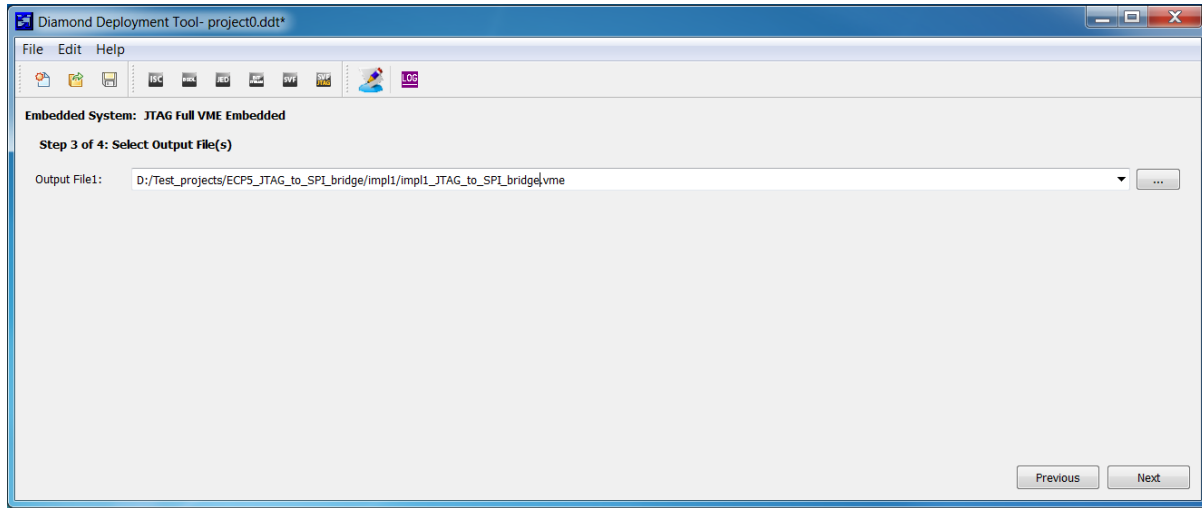

Figure 7.4. Step 3 of 4: Select Output File(s)
- In **Step 3 of 4: Select Output File(s)**, shown in Figure 7.4, check the output file (*.vme) path in **Output File1** and click **Next**.